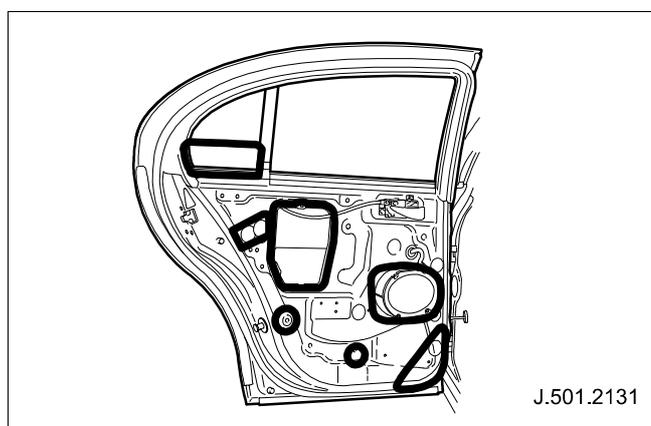

Fig. 9
- 1 The following illustrations depict possible water leak points around the rear door area. (See Fig. 9)